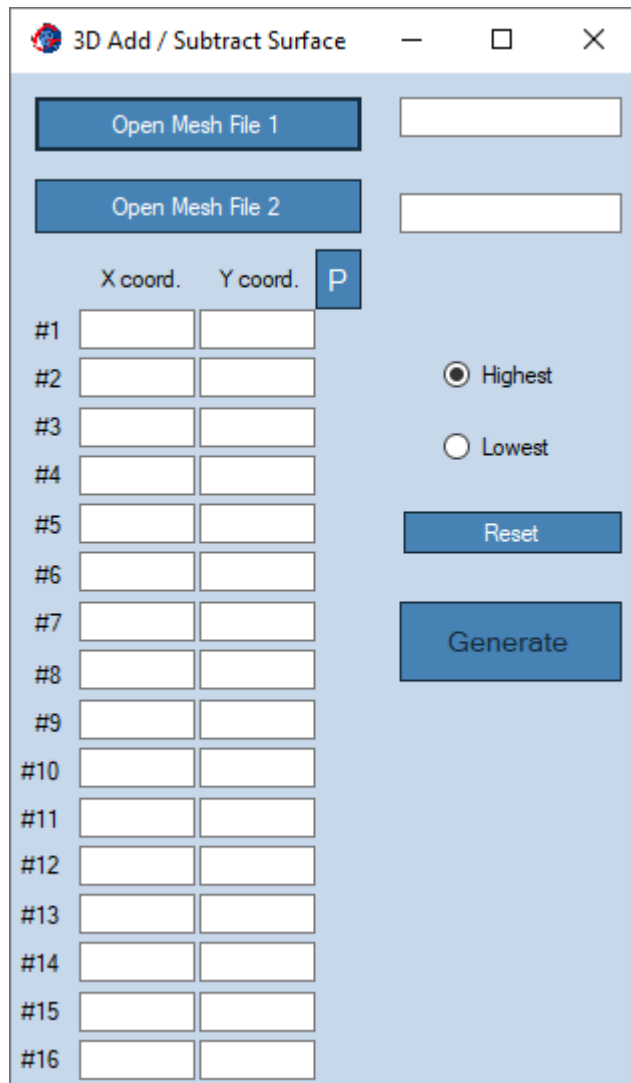

Figure 35: 3D Surfaces Menu – Add / Subtract.
- **Snap to GP:** This option is useful when coordinates (X,Y) are selected using the mouse. Given the unlikeliness of exactly clicking over a gridpoint (GP) coordinate, activating this option will internally correct the coordinate of the selected point to the closest GP coordinates. This option helps to create straight edges of the landform perimeter, aligned with the mesh grid.
- **Meshing Menu, Add / Subtract Mesh:** This menu option (shown in Figure 35) operates an Addition or Subtraction between two 3D surfaces.